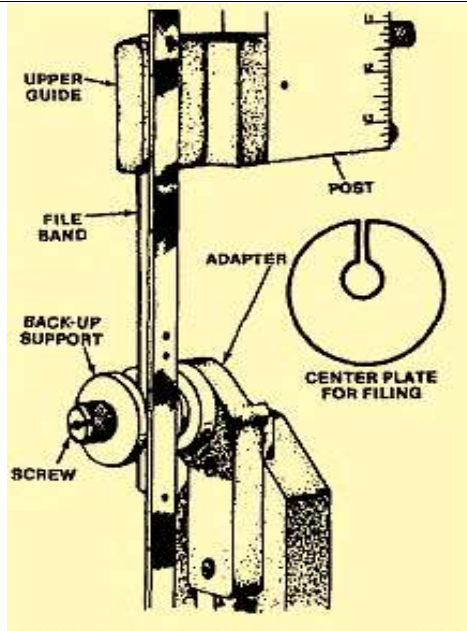

Figure 6-10. Band file attachment installed on a band sawing machine.
**Band File Attachment:** A band file attachment (Figure 6-10) is provided with most bandsaw machines to permit the use of band files. A typical band file attachment consists of a band file guide and upper and lower guide supports that attach to the frame and part of the band saw. A special filing filler plate is provided to adapt the table slot to the extra width and depth required for the band file and file band guide.